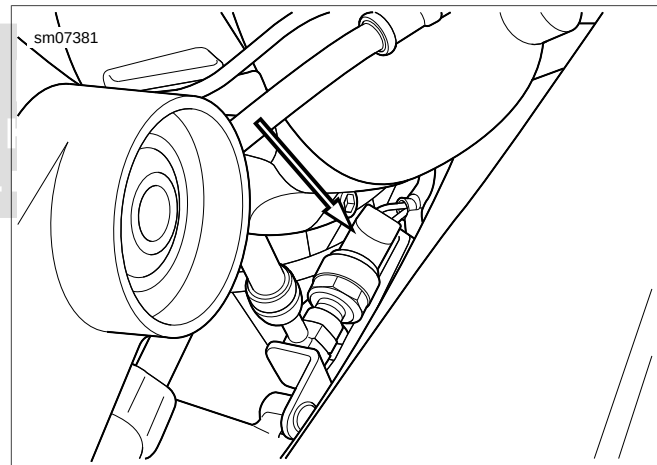

Figure 2-13. Stoplamp Switch Connectors (non-ABS models)
51. See Figure 2-13. Remove connectors from stop lamp switch [121].
6. See Figure 2-13. Install stop lamp switch connectors [121].